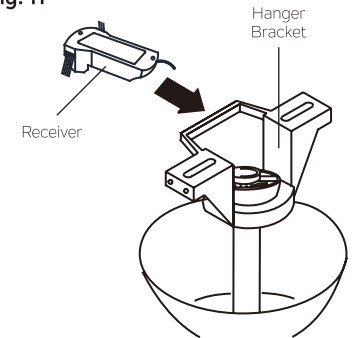

Fig. 12
**Step 1.** Insert the receiver into the ceiling mounting bracket with the flat side of the receiver facing the ceiling. (Fig. 12) For best performance, make sure the Black Antenna, on the end of the receiver, remains extended and not tangled with any of the electrical wires.